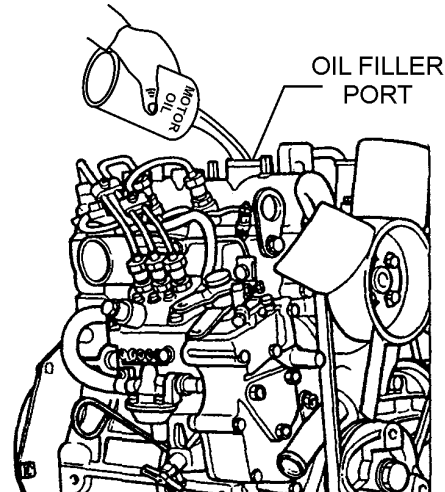

Figure 13. Engine Oil Filler Port
4. If the oil level is low, remove the oil filler cap (Figure 13) and fill to a safe operating level (max) as indicated by the dipstick. Fill with recommended type oil as listed in Table 6. Maximum oil capacity is 2.64 quarts (2.5 liters).